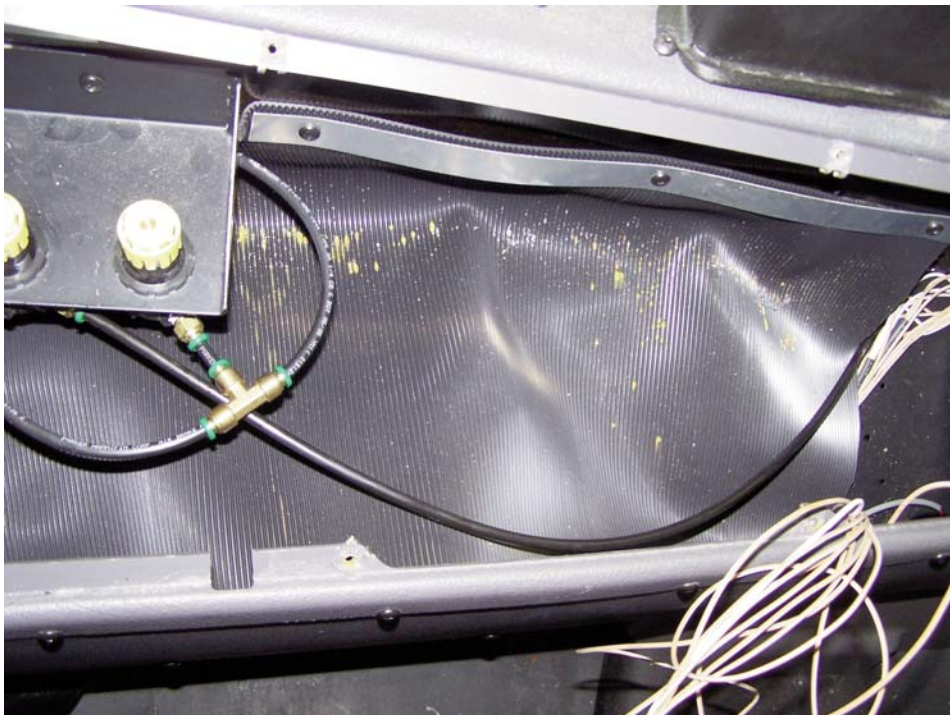

Figure 1
3. Remove the rubber flap shown in **Figure 1**. Retain for reinstallation.
4. Using a 7/16 socket or wrench, remove the three (3) fasteners securing the SHM. **Do not** discard.